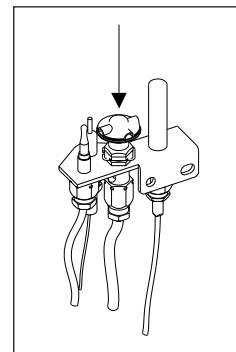

fig. 3
- 7 Replace the pilot hood by aligning the tab on the base of the hood with the slot in the side of the pilot journal, and push the hood down, directly onto the pilot bracket (fig. 3). The hood must sit squarely on the bracket for proper operation. Check to insure that the hood is properly seated onto the pilot bracket.